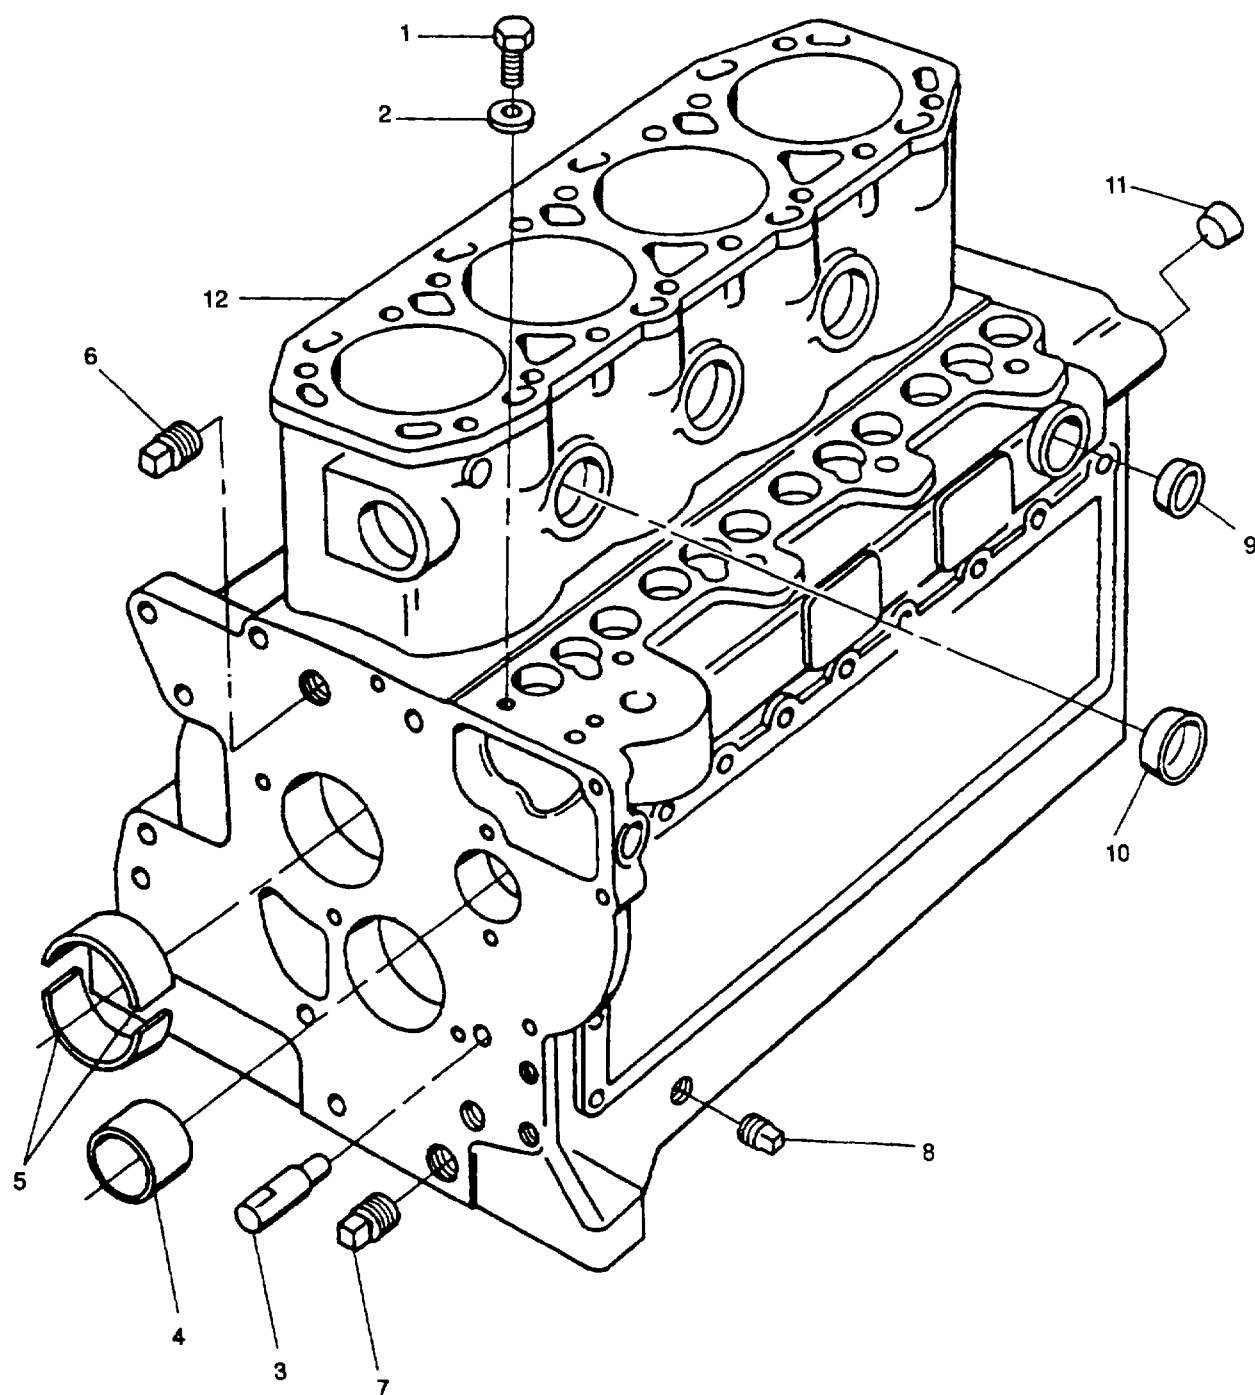

FIGURE 3-43. Crankcase Assembly
- a. If damaged, remove two capscrews (1, FIGURE 3-43) and copper washers (2).
- b. If damaged, remove two pivot supports (3).
- c. Using camshaft bushing tool (317-50106), remove camshaft bushing (4) as follows:
- (1) Install guide into bushing (4) from inside crankcase.
- (2) Install slide hammer onto guide threads.
- (2) Install bolt and dolly into bearing (5, FIGURE 3-43) from oil seal side (crankcase outside face).
- (3) Install bridge over bolt threads until two legs are against crankcase.
- (4) Install spacer onto bolt.
- (5) Use a suitable wrench to tighten nut until bearing shells are withdrawn.
- (2) Place new bearing shells (5, FIGURE 3-43) into collar ensuring that one oil feed hole is in line with pilot pin and end of shell is in line with mark on collar face.
- (3) Place driver onto collar with cutout on driver located over collar pilot pin.
- (4) Push driver sufficiently until bearings come out other side of collar to provide a lead in.
- (5) Install assembly into crankcase from gear end with pilot pin in line with the oil feed hole in crankcase.
- (6) Place bolt through assembly.
- (7) Install bridge, spacer, and nut onto bolt.
- (8) Tighten nut until driver is against face of collar.
- (9) Remove tool.
- (10) Check that oil hole in bearing shell (5) is correctly aligned with oil feed hole in crankcase.
- h. Using camshaft bushing tool (317-50106), install camshaft bushing (4) as follows:
- a. Clean block (12, FIGURE 3-43) thoroughly using dry cleaning solvent (P-D-680), pressure steam, or a hot tank.